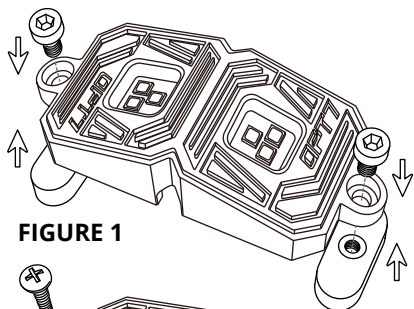

FIGURE 1
- OPTION 1** Use "Strong Magnets" for mounting as shown in Fig. 1